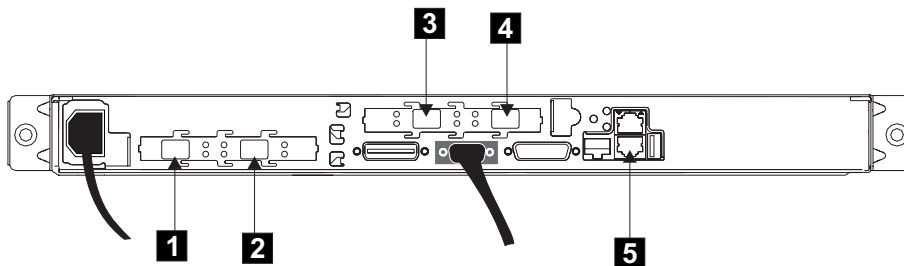

Figure 34. Connectors at the back of the SAN Volume Controller
1. Connect the Ethernet cable to the Ethernet port 1, number **5** (See Figure 34 on page 36).
2. Connect the fibre channel cables to the fibre channel connectors as required by the customer's configuration. The connectors are numbered **1**, **2**, **3**, and **4** from left to right, as shown in Figure 34. These numbers correspond to the numbers that are shown in the customer's cable connection table.